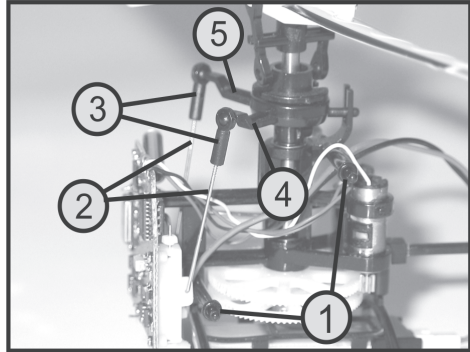

Figure 18
For this, lift the canopy from the two retaining pins on the left and right. Observe that the small attachment discs (see figure 18, item 1) on which the canopy is placed are not lost.